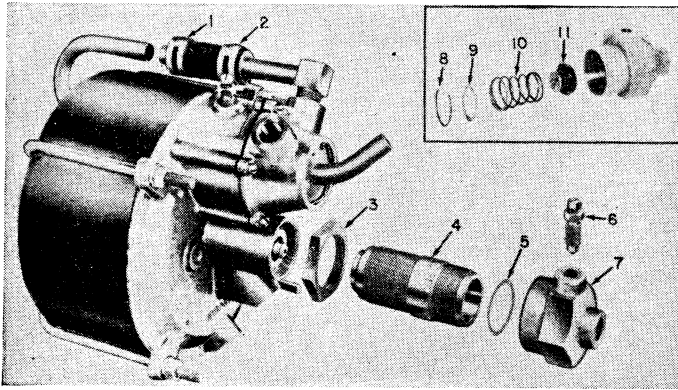

Fig. 53 Disassembly of hydraulic cylinder. Inset shows end cap with residual line pressure check valve
Fig. 53. Loosen hose clamps (1) and (2) and slide hose off tube. Loosen lock nut (3) and unscrew hydraulic cylinder (4) from end plate. Hold end cap (7) in vise and unscrew hydraulic cylinder, using open-end wrench on flat part of cylinder. Remove gasket (5) and bleed screw (6) from end cap. If unit has a residual line pressure check valve (11), remove this valve by taking out snap ring (8), washer (9) and spring (10).